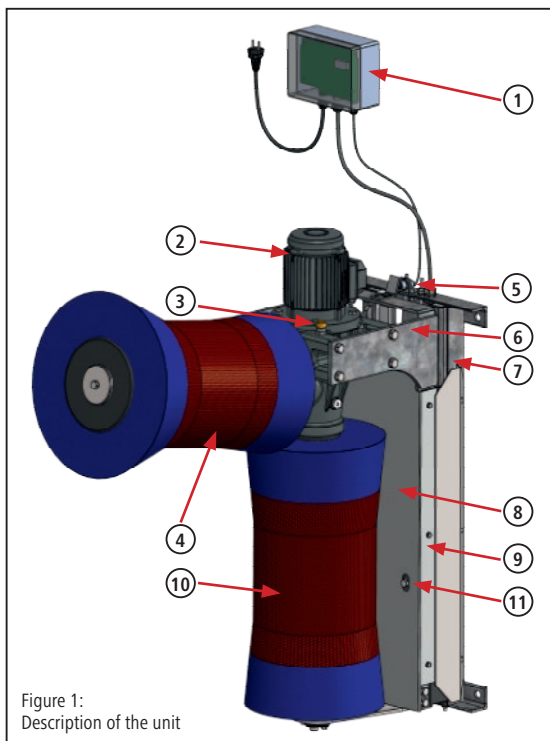

Figure 1:
- Gear ventilating screw included, which must be fitted without fail before the first activation (see Fig. 1 - item 3)!
- The included gear ventilating screw must be fitted without fail before the first activation (see Fig. 1 - item 3)! Failure to observe this instruction can result in damage to the gears!